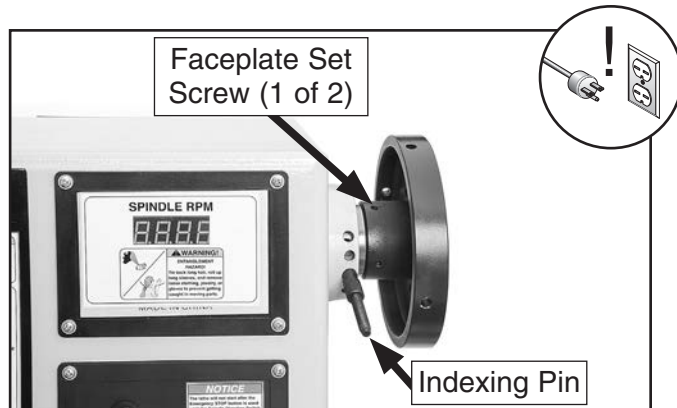

Figure 23. Locking spindle with indexing pin and faceplate set screw.
2. Insert indexing pin into an indexing hole and rotate spindle until pin engages to prevent spindle from turning while you tighten faceplate, as shown in **Figure 23**.
4. Using included 4mm hex wrench, tighten two set screws along inside diameter of faceplate to secure it to spindle (see **Figure 23**).